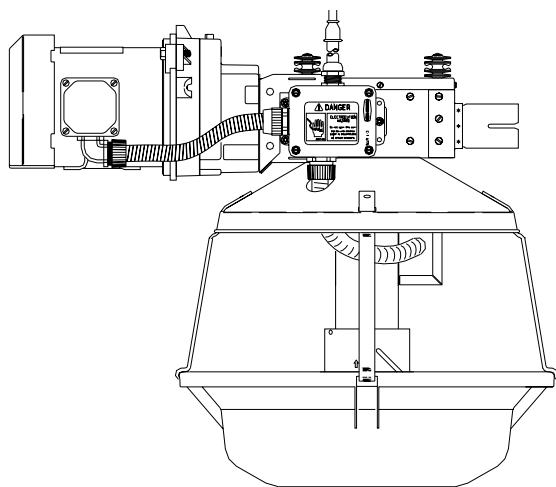

Figure 31. Switch Installation
7. Insert the flex cable that is attached to the control switch through the hole in the control unit pan shield and attach the Romex connector to the handy box, see figure 31.